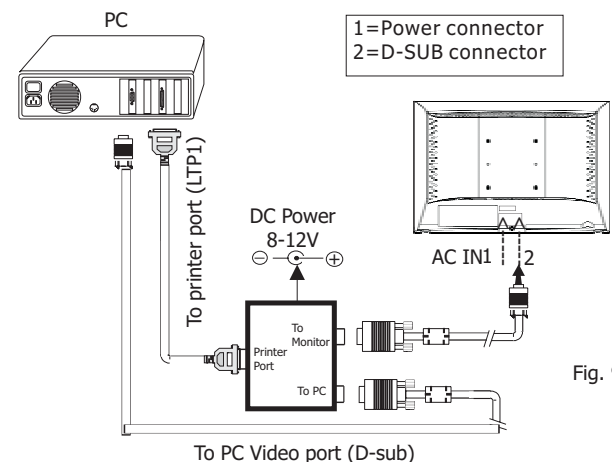

Fig. 9
Step 1: After initialize alignment box, connecting all cables and box as shown in Fig. 9